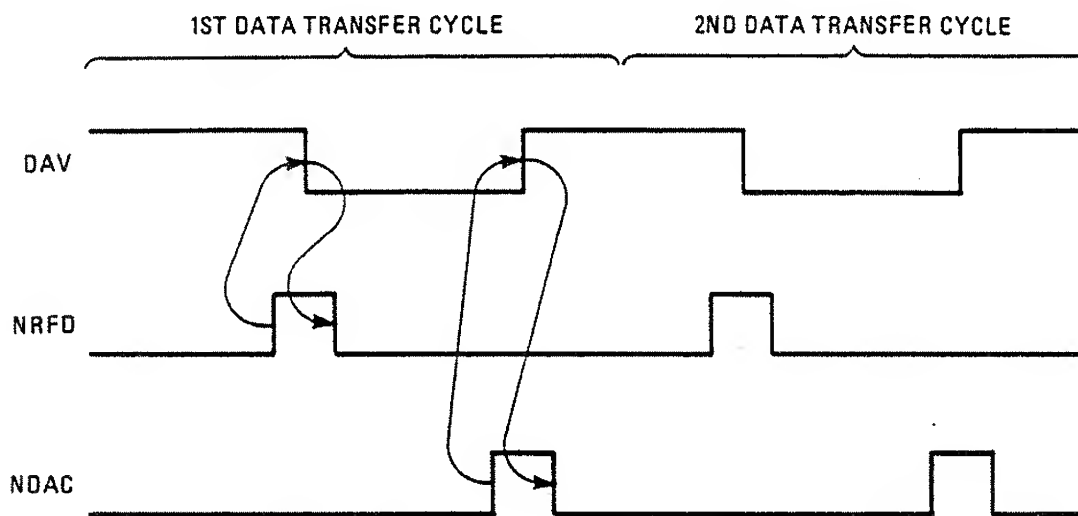

Figure 4.3 - Handshake Sequence
4.2.3.2 Refer to Figure 4.3. It shows the sequential relationship between the DAV, NRFD, and NDAC lines used to transfer data bytes. Figure 4.4 shows the handshake flow chart.